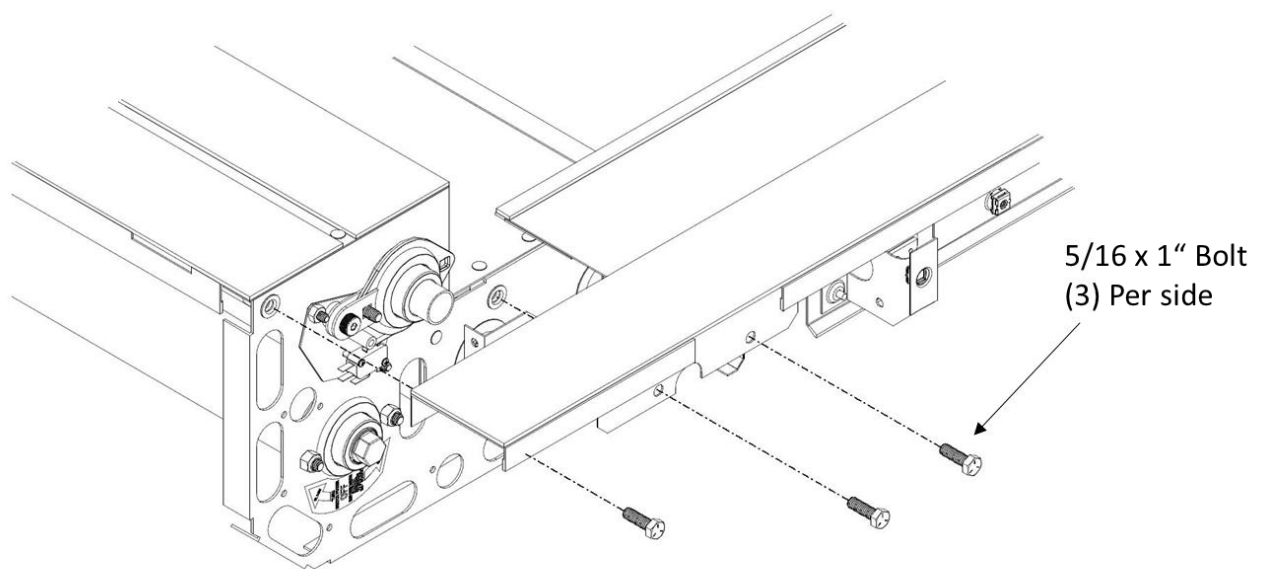

Figure 5: Assembly Tracks to Head
4. With the cladding removed and the tracks facing downward, align the upper track holes with the threaded holes on either end of the head unit as shown in Figure 5.